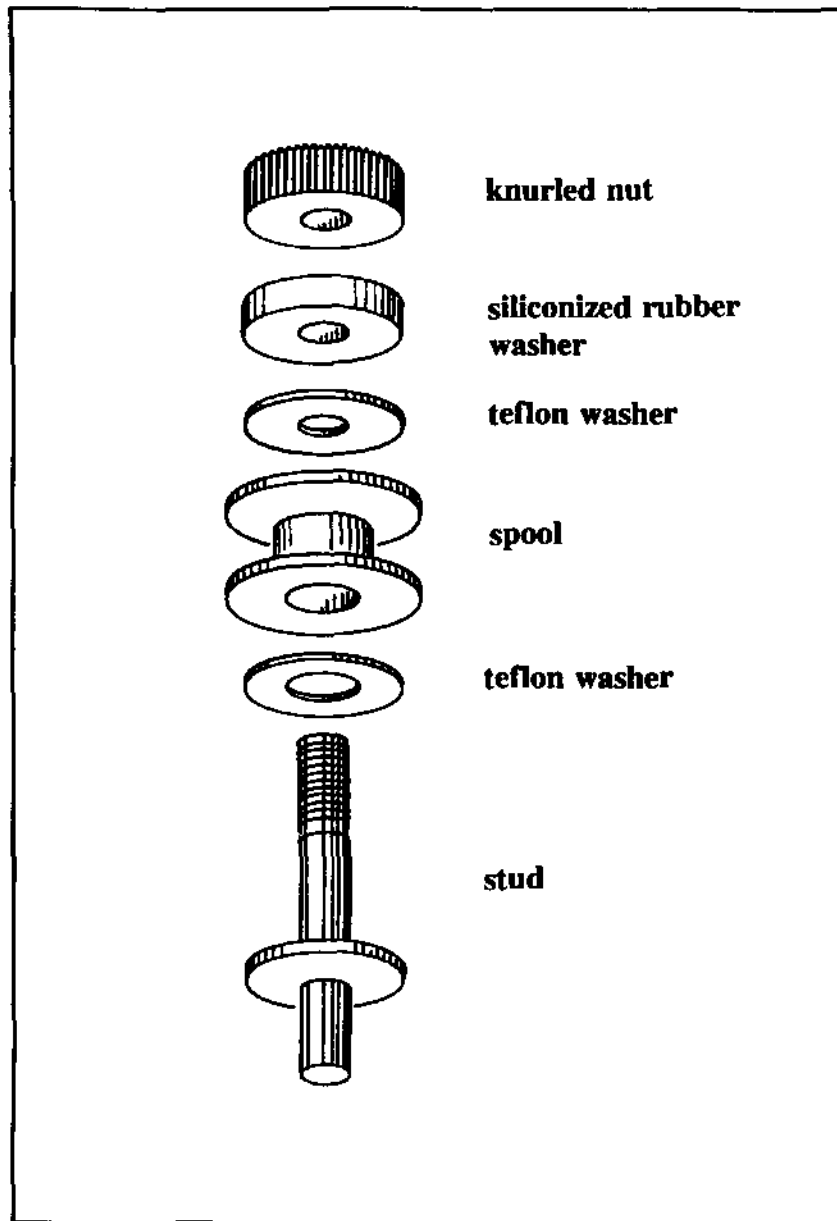

Figure 2. Components of the spool assembly.
**knurled nut** a portion of the spool assembly consisting of a round knurled nut threaded 10-32; used to provide spool tension control (see Fig. 2).
**spool** a custom or commercially-available spool which holds the tying thread (see Fig. 2).
**spool assembly** the entire functional assembly consisting of the stud, spool, knurled nut, and various washers (see Fig. 2).
**stud** a portion of the spool assembly. The stud consists of four components: (1) an unthreaded end which fits into the stud hole; (2) a raised thin collar which, when installed, is flush against the spool base of the blank; (3) an unthreaded portion where the spool rotates; and (4) a 10-32 threaded end which accepts the knurled nut (see Fig. 2).
**washer set** a portion of the spool assembly consisting of one siliconized rubber and two teflon washers. The washers are used in the tension control of the spool (see Fig. 2).